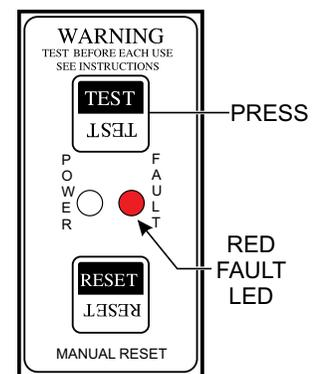

Figure 48. GFCI Module (Red/Fault LED ON)
5. Next, press the **TEST** button (Figure 48) on the GFCI module and verify that the *green* POWER LED turns **OFF** and the *red* FAULT LED turns **ON**.